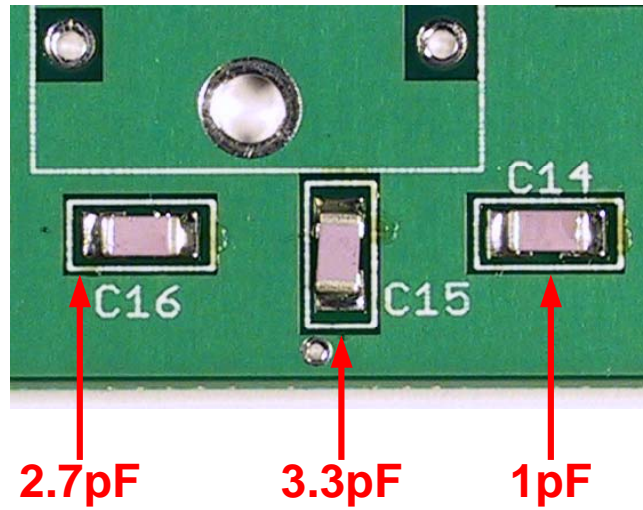

Figure 8. C14, C15 and C16 Locations
- ☐ Remove C16 from Bag 1. This is a 2.7 pF capacitor and is unmarked. Install it at C16, as shown in **Figure 8**. This installation will require a little more heat and solder because of the via to the bottom copper layer.
- ☐ Remove C15. This is a 3.3pF capacitor and is unmarked. Install it at C15, as shown in **Figure 8**. Like C16, use a little extra solder and heat to ensure a good solder joint
- ☐ Remove C14. This is a 1pF capacitor and is unmarked. Install it at C14, as shown in **Figure 8**. Use a little extra heat and solder to make a solid joint.